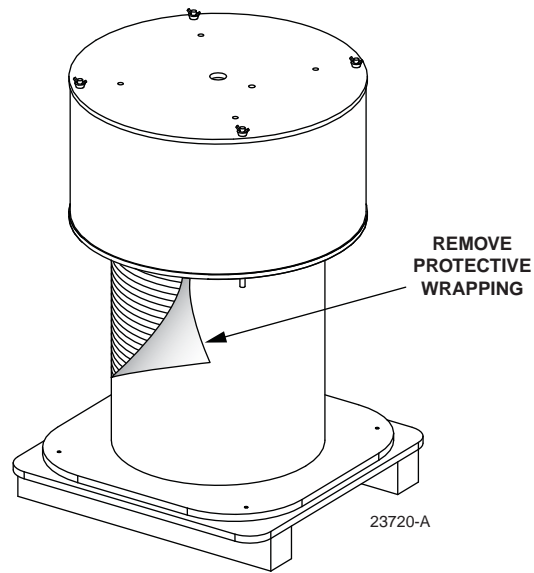

Figure 10. Removing Base Screws and Unwinding Cable
2. Take off the external packing as shown in Figure 10.